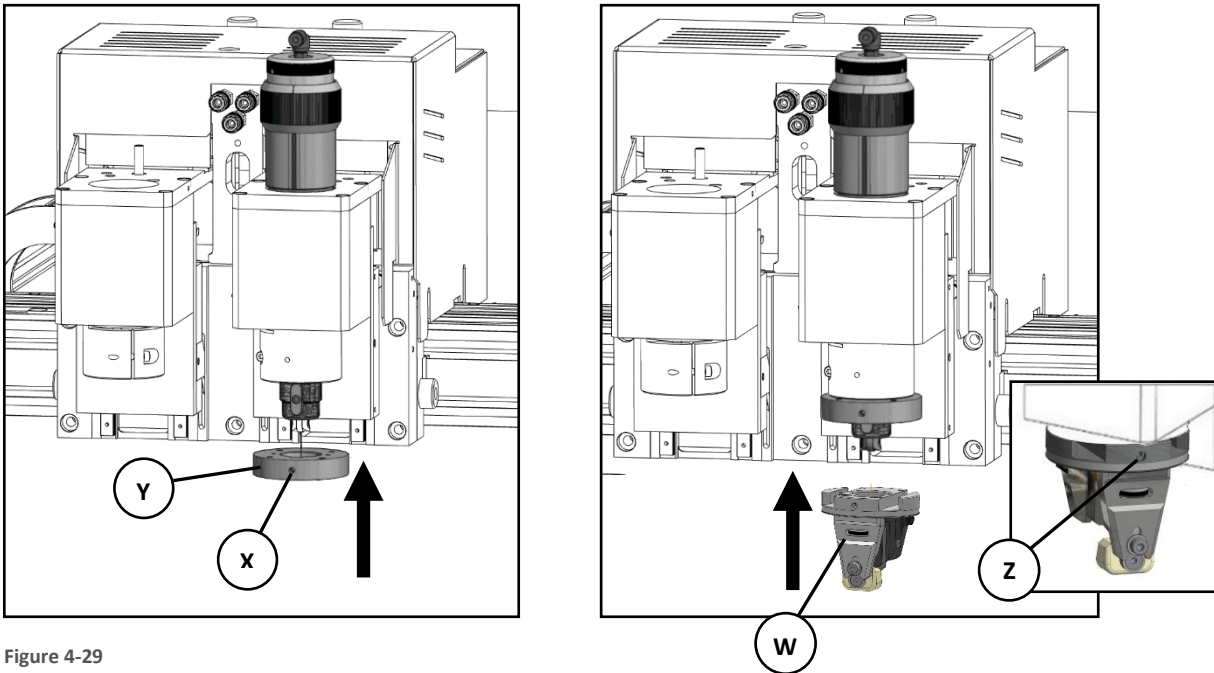

Figure 4-29
When mounting a head (W) on the VersaTool, insert it under magnet holder and when it adheres to the flange, tighten the screw (Z) (Figure 4-29).
- Loosen the screw (Z) (Figure 4-29).
- hold the release tool/fork (1) by its handle and insert it into the slot located in the top part of the head. Holding the tool with one hand support the release fork tool with the other, insert into the head slot (2) and give it a slight knock to free the head.
- This will detach the interchangeable head from the retaining magnets, and it will remain attached to the magnets of the release tool (3)